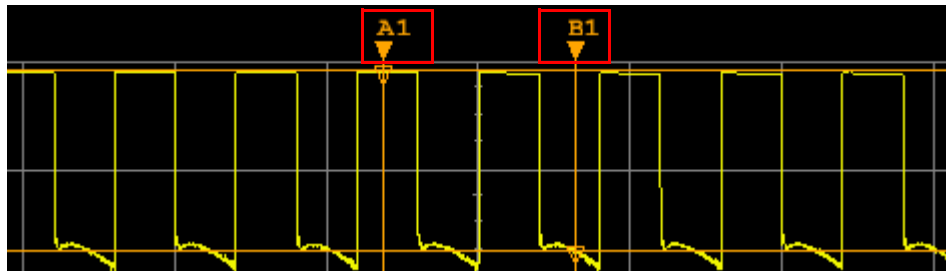

Figure 2-79 Marker labels on the graphical interface
- 3 To change the position of the marker, turn , or select the marker label on the graphical interface and drag the marker to the desired position as shown in Figure 2-79.